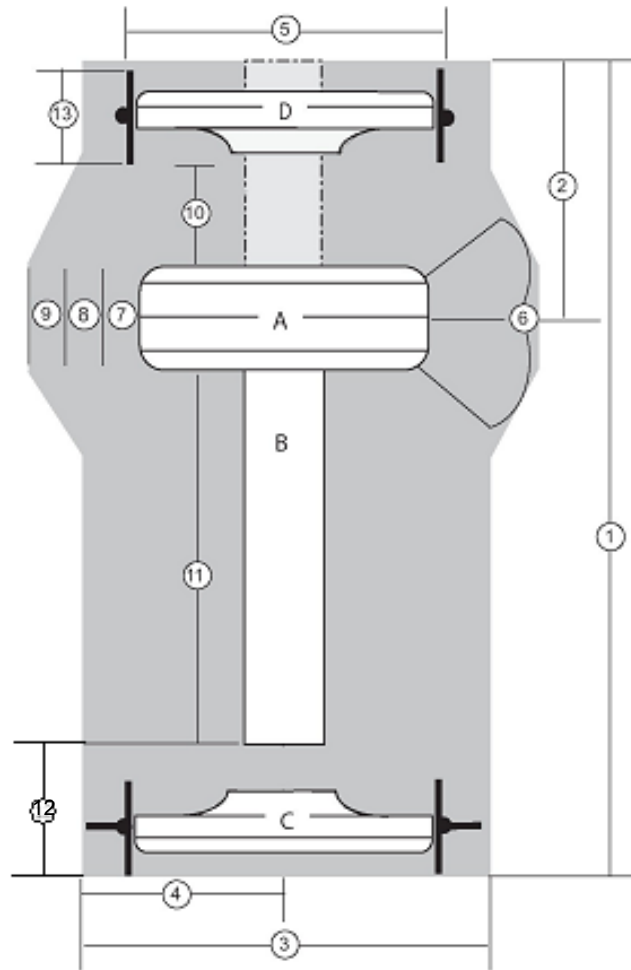

Figure 6-1 Minimum Service Clearances
- Sufficient space to remove the covers Figure 6-1.
Note: When calculating service clearances, refer to Figure 6-1 for all service clearance needs.
- Gantry front cover removal requires the use of the Tilting Cover Dollies and a minimum clearance space of 2830 mm (112 in.) to maneuver the cover, as illustrated in Figure 6-1. The dollies allow the service engineer to separate the cover from the gantry, tilt it 90 degrees, roll it to the foot end of the table, and then tilt it an additional 90 degrees, so that it is upside-down relative to its normal system-mounted condition. After removal, the service engineer must then move the gantry front cover to a position that satisfies the minimum regulatory clearances.
- The gantry rear cover, with service dollies installed, requires a clearance width of 2006 mm (79 in.) and a depth of 914 mm (36 in.) for removal, as shown in Figure 6-1. Sufficient space to allow the service engineer to move the cover either straight back or to one side of the table to satisfy the minimum service clearances shown in Figure 6-1 must be maintained. The rear cover with dollies cannot extend past the allowable clearance space within the room (see Figure 6-1). If the system is not sited straight (it is positioned diagonally), full service space is still required. The PMI and customer should discuss this consideration and make the necessary provisions.
- A tube change box is 1000 mm (L) x 700 mm (W) x 730 mm (H) (39 in. x 28 in. x 29 in.), if the handles are extended, the box dimension is 1813 mm (L) x 700 mm (W) (71 in. x 28 in.). The box rolls like a wheelbarrow and must have access to the right side of the gantry. It is the PMI's responsibility to demonstrate that the tube change box can be positioned in the tube change area next to the gantry and that the front and rear covers can be removed.